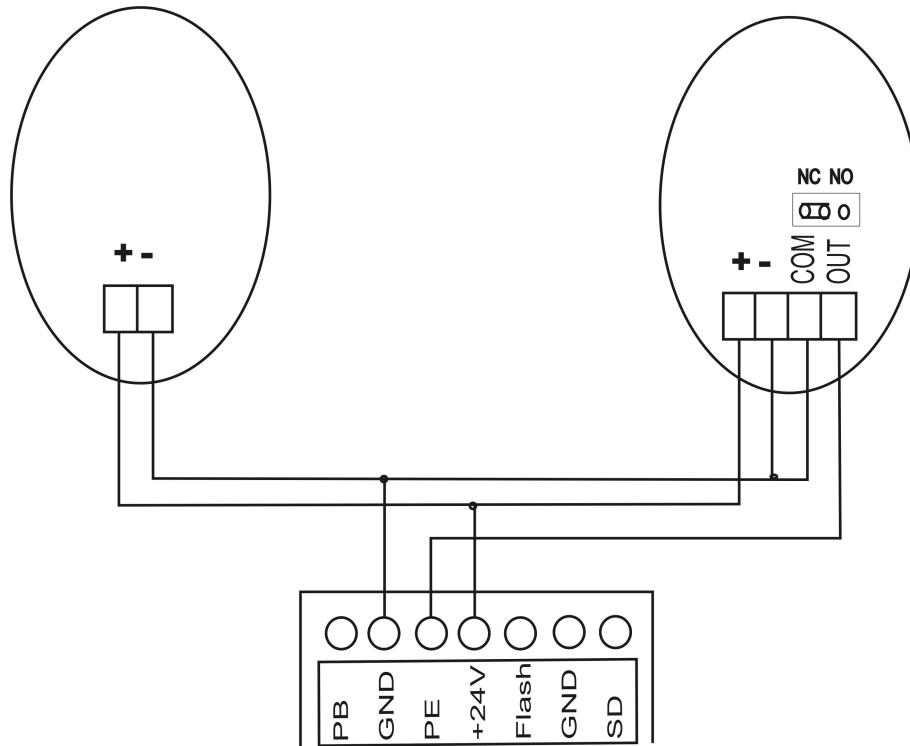

Fig.16 Connection of photocells
4. Connecting the photocells (Fig. 16)
To avoid closing the gate when there is an obstacle in its light, install photocells. They are mounted at a height of 40-60 cm. The connection method is shown in Fig. 16.